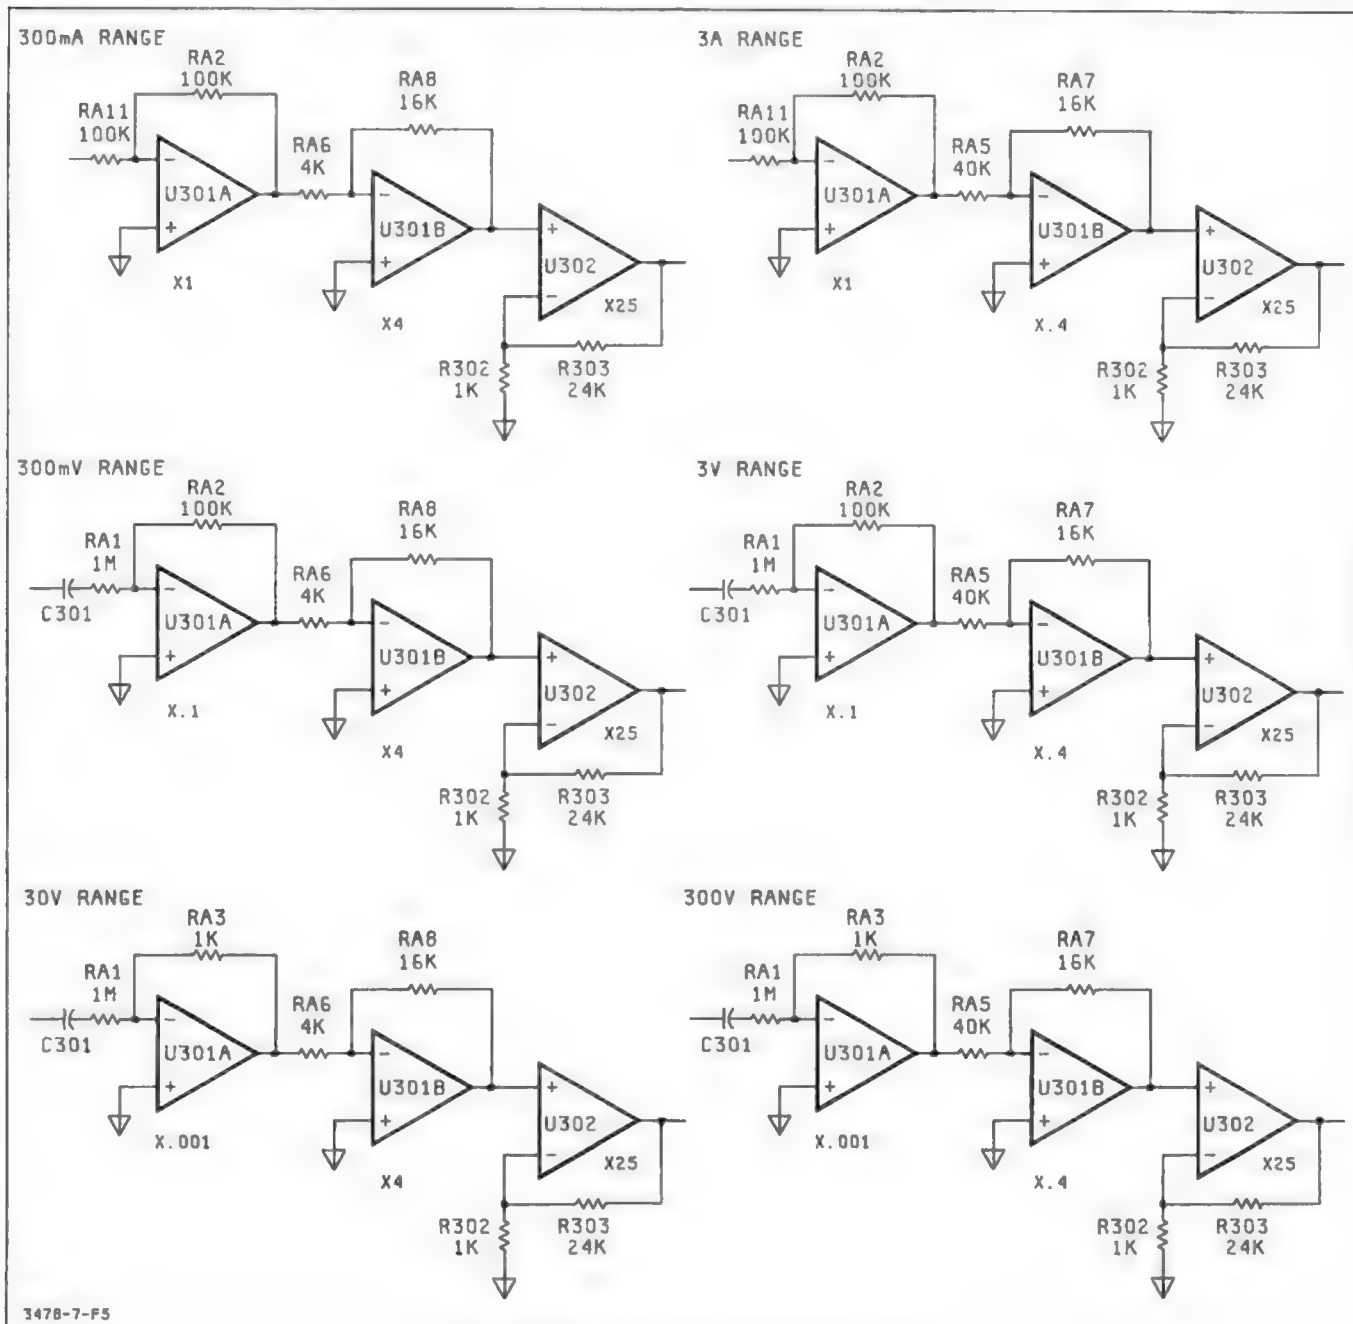

Figure 7-F-5. AC Gain Configurations
7-F-28. **Amplifier Stages.** Refer to Figure 7-F-5 and Schematic 2 for the following explanation.
a. The first amplifier stage (U301A) is an inverting amplifier with gains of X.001, X.1, or X1 (dependent on the ac range and function selected). The gains are determined by resistors RA1, RA2, RA3, and RA11 (all in U102), as shown in Figure 7-F-5. Capacitor C302 and resistor R305 are used for high frequency compensation (for flat gains at high frequency). The gain determining resistors are selected by MOSFETS S1AC through S6AC, and S11AC (all in U102) which operate as switches. The gains of the amplifier and FETs selected for the ac functions are listed in Table 7-F-2.